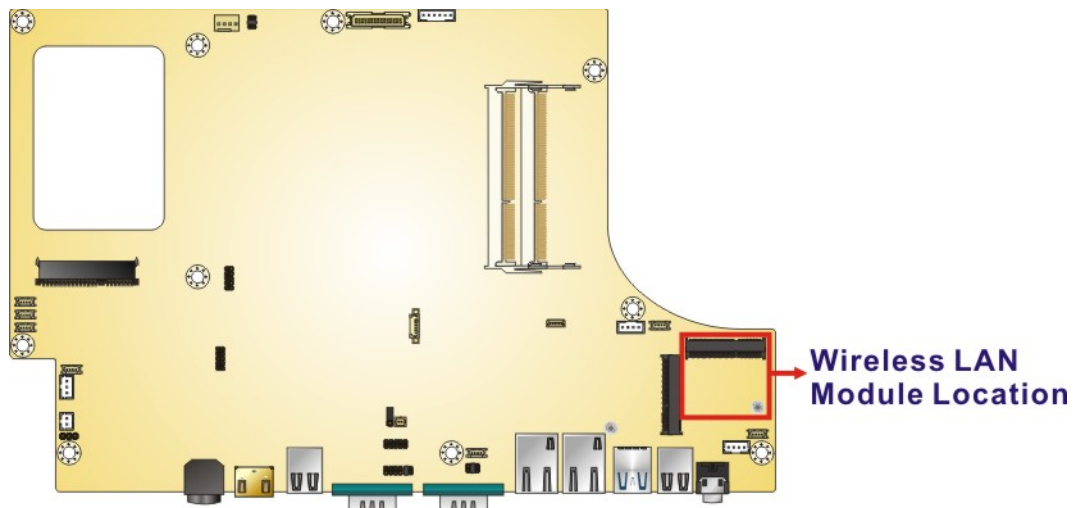

Figure 5-3: WLAN Card Location
Step 4: Locate the WLAN card (**Figure 5-3**).